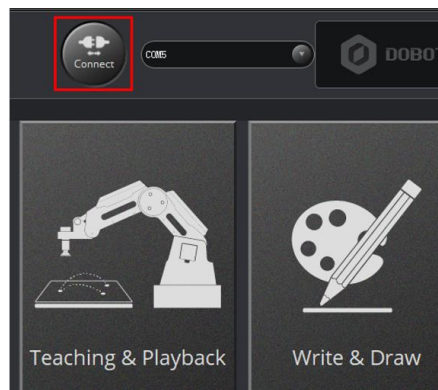

Figure 2.15 Click Connect
- Step 2** Click **Connect** on the DobotStudio page, as shown in Figure 2.15.